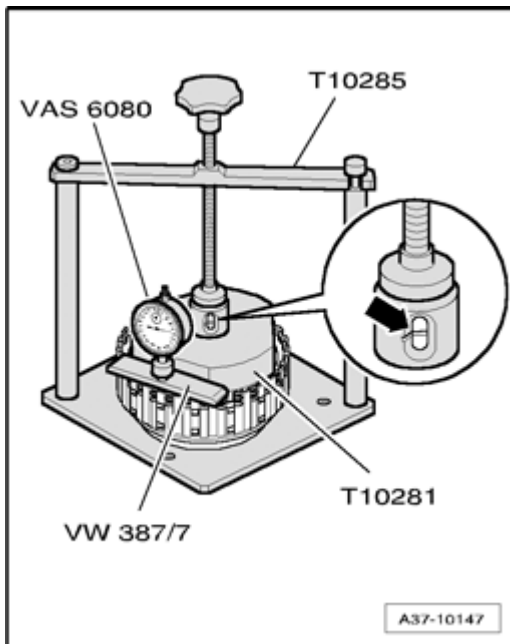

Fig. 220: Adjusting Air Gap Clutch "B"
- Determining thickness **Fig. 220**